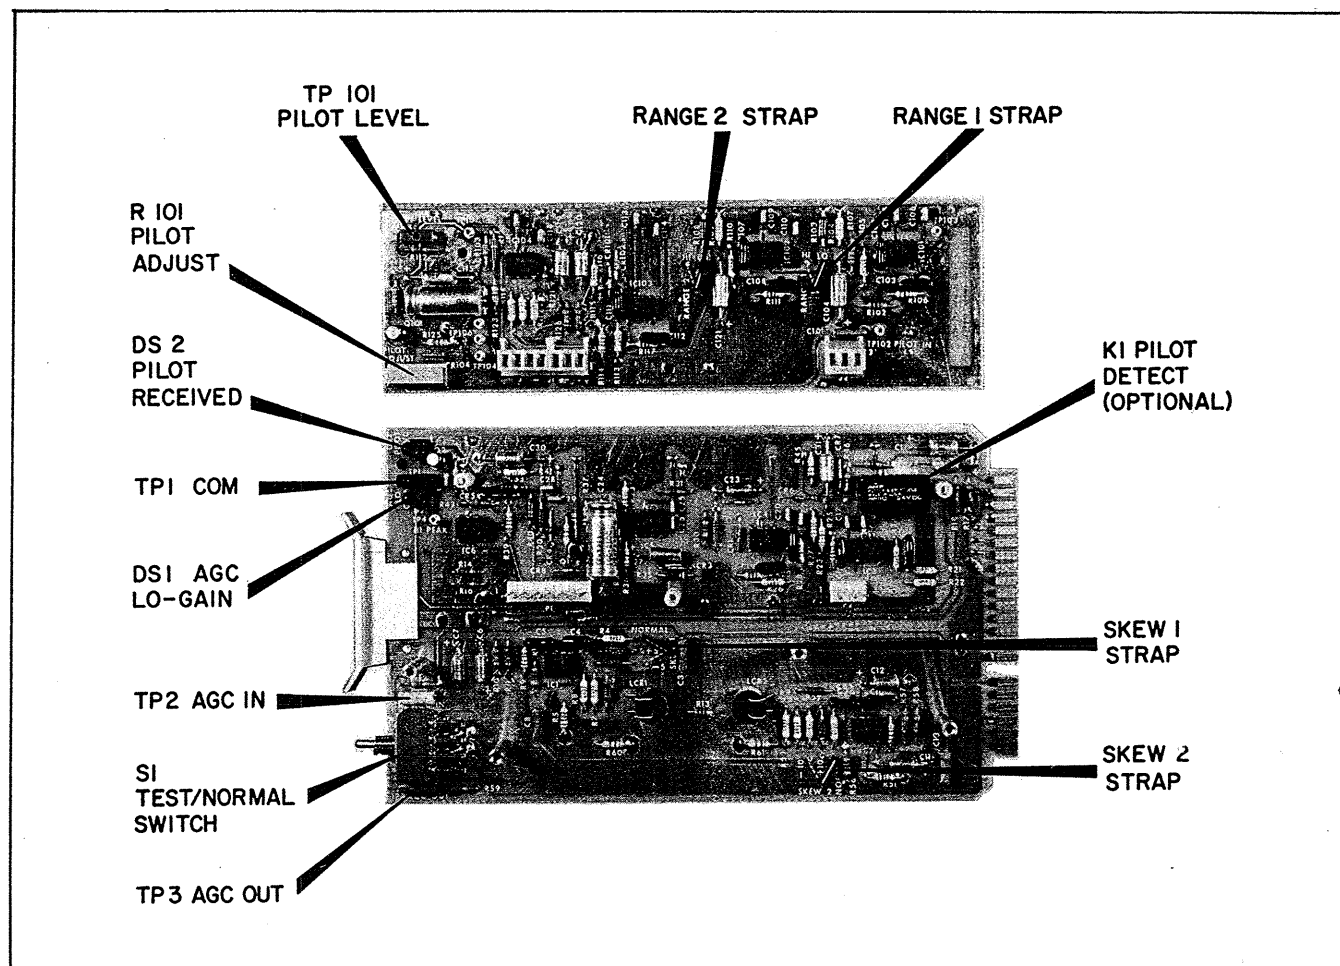

Figure 4. Location of adjustments, Model 65 AGC.
- (5) If the level is not correct, adjust R101. After the pilot-tone level is correct, turn the Normal/Test switch to NORMAL.
- (6) With the switch at NORMAL, observe that the level at TP3, AGC OUT, is the same as at TP2, AGC IN. Readjust R101 if necessary.
- (7) Set the skew straps to the desired setting as follows (refer to Figure 4):